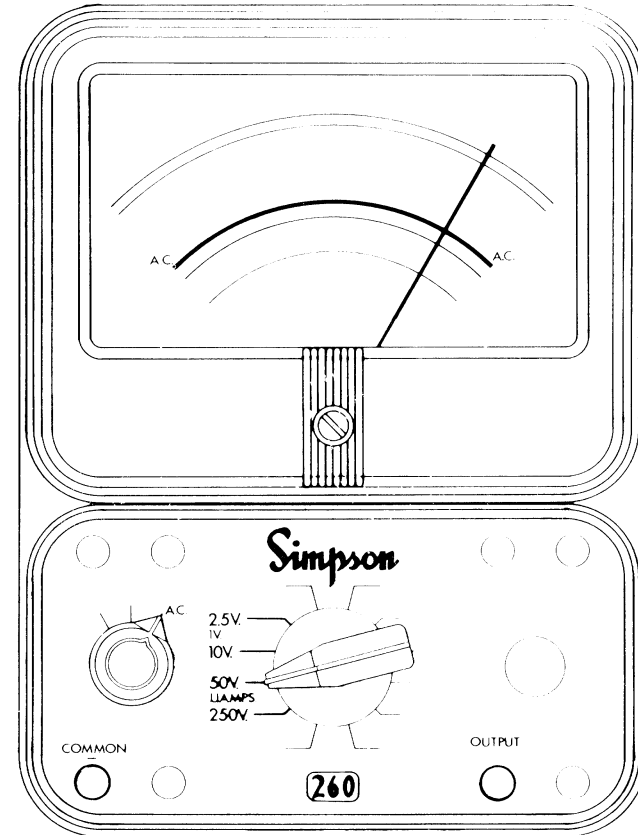

Figure 4-5. Jacks and Switch Positions for Output Measurement
- a. Set the function switch at AC (Figure 4-5).